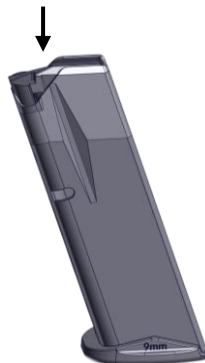

Fig. 30
3. With the base catch depressed, carefully slide the magazine base out while maintaining pressure on the base (Fig. 30).